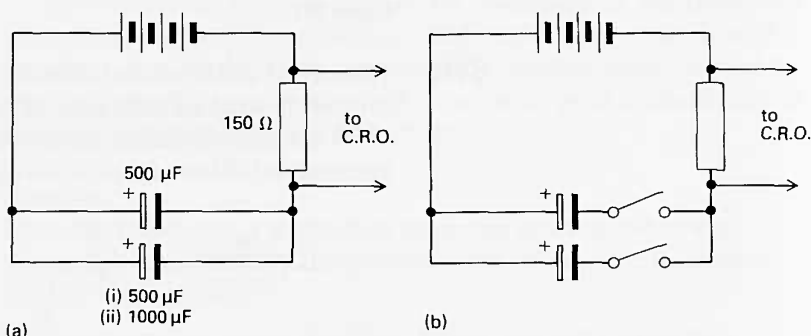

Figure B45
**B14f** How is the amount of charge flowing around the circuit affected by adding a second capacitor in parallel (figure B45)?